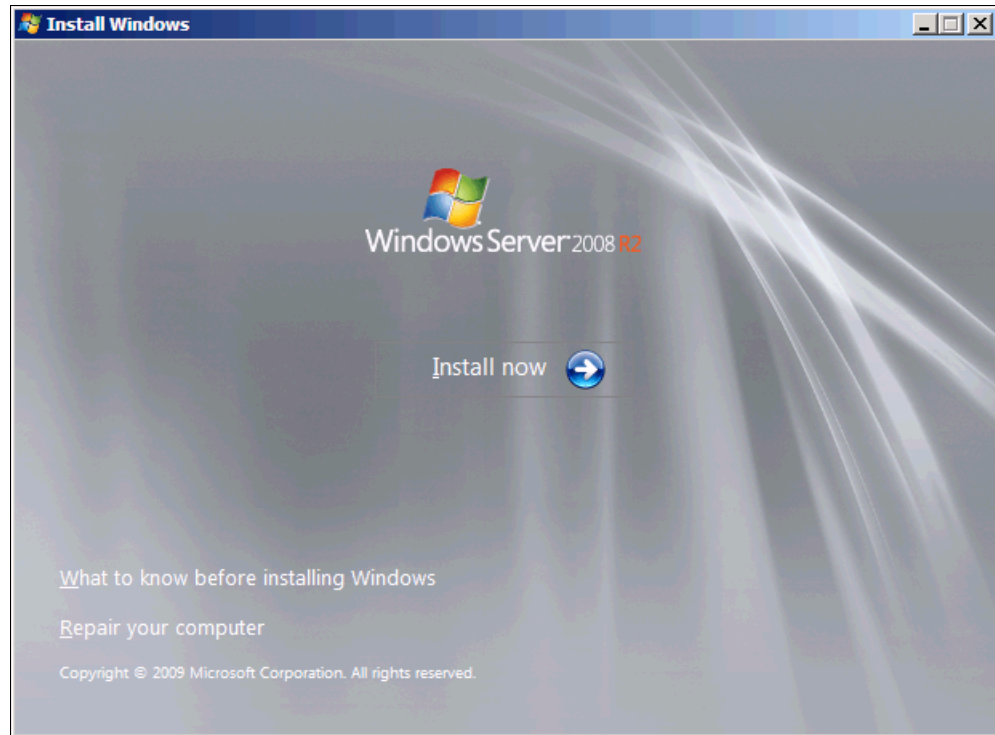

Figure 9-192 Install now button in the Install Windows panel
8. In the Windows installation window (Figure 9-192), select **Install now**.